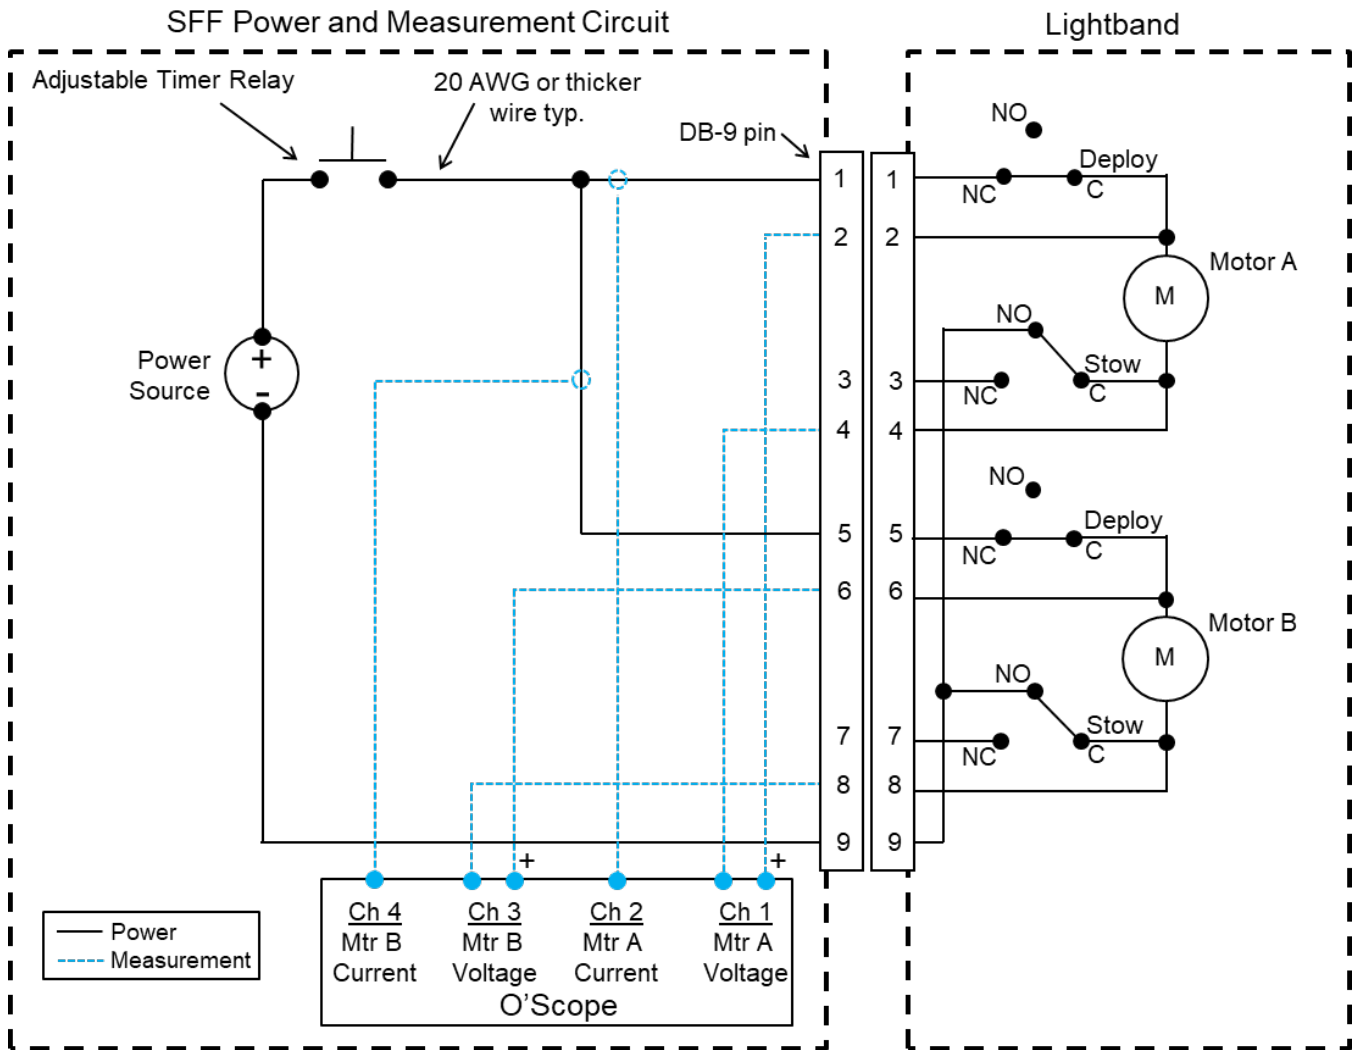

Figure 10-3: SFF circuit
10.3.1	Verify the DB-9 pin connector of the SFF Power and Measurement Circuit in Figure 10-3 is visibly clean. Any debris could detrimentally contaminate the Lightband's mating socket connector.
10.3.2	Connect the Lightband to the SFF Power and Measurement Circuit per Figure 10-3. Do not apply power to the Lightband.
10.3.9	Disconnect the SFF Power and Measurement Circuit from the Lightband's DB-9 socket connector in Figure 10-3.